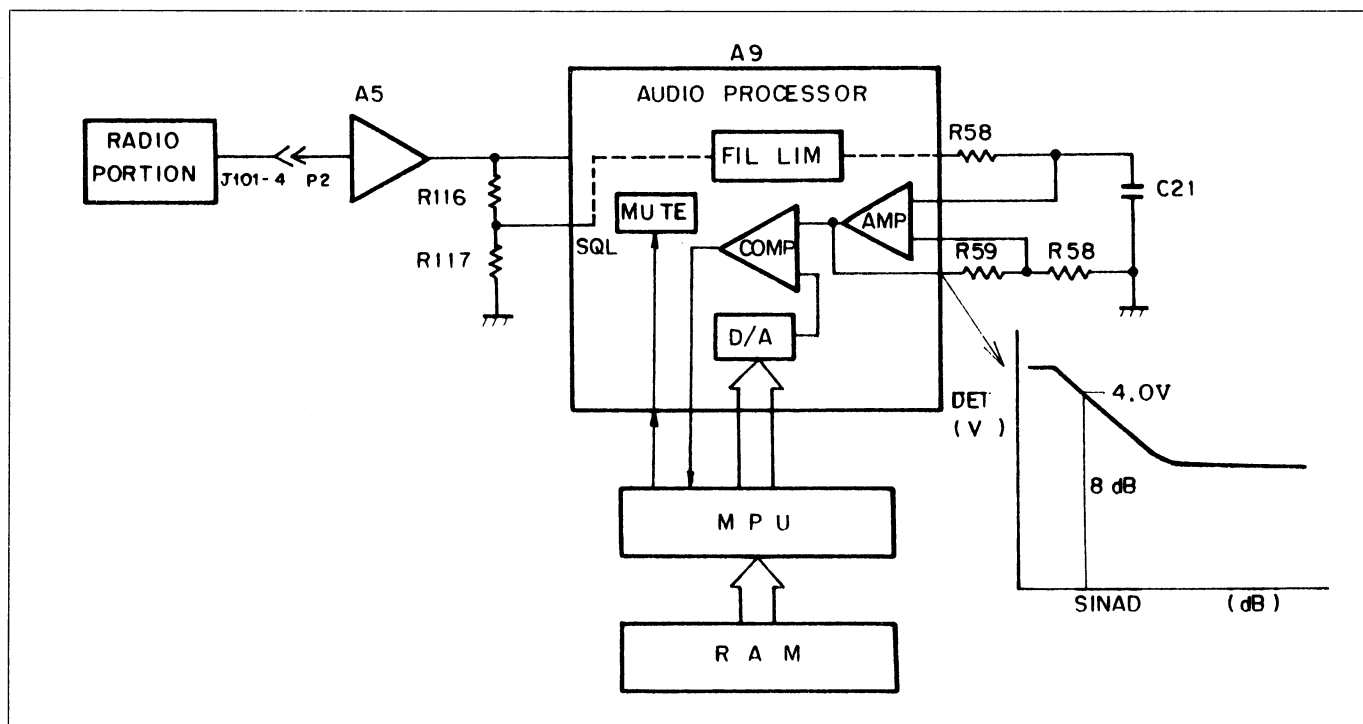

FIGURE 13 - AUDIO PROCESSOR BLOCK DIAGRAM AT SQUELCH
- a. The operation of squelch is controlled by Audio Processor A9 on the Control Board (refer to Figure 13).